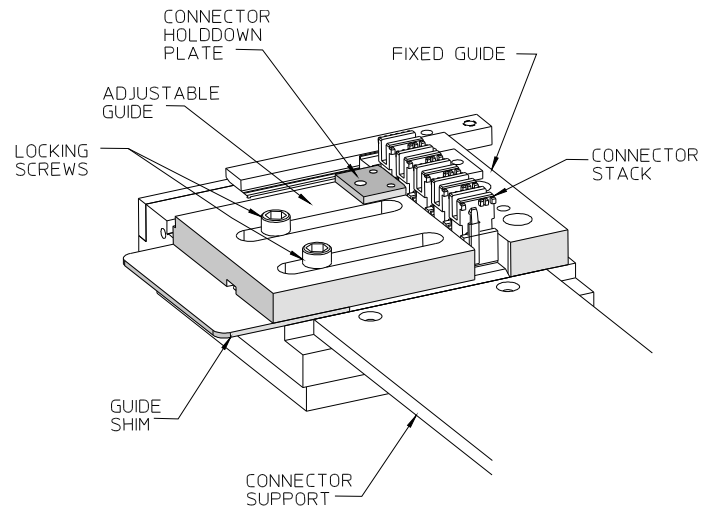

Figure 2-2
3. Loosen the two (2) locking screws (See Figure 2-2).
1. Loosen the two (2) adjustable guide locking screws (See Figure 2-2).
1. Load a stack of connectors in between the guide blocks as shown in Figure 2-2.